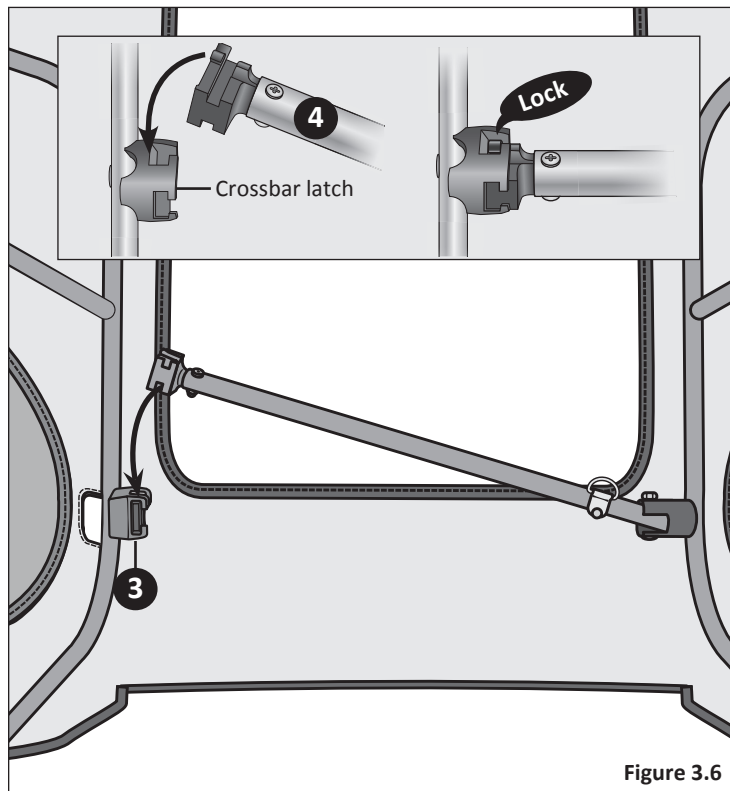

Figure 3.6
- 3 Rotate the crossbar until it locks into the crossbar latch. Be sure the cross bar is not caught by the fabric. **Figure 3.6**